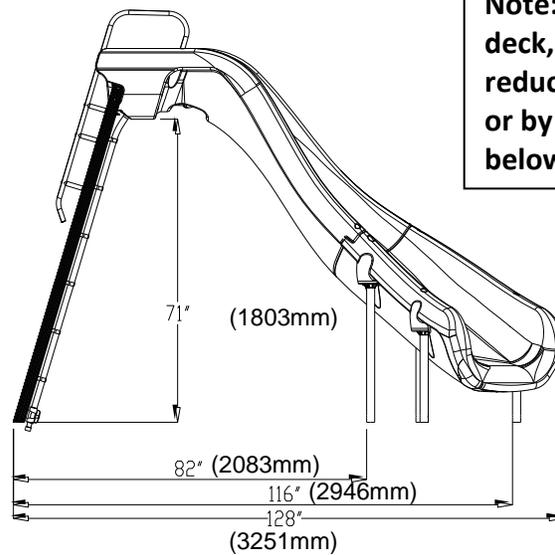

Figure 3
- a. Make sure that the slide entrance is level from side to side while maintaining a height of $77'' \pm 1/2''$ (1955.8 mm \pm 12.7 mm) from the deck level, and a ladder angle of 15 deg. (0.262 rad) with respect to the vertical. See Figure 3 for reference.
- 9) With the entrance way secured and the slide in relative final position. Level as close as possible the exit runway surface horizontally, from side to side, using a small level. The exit end height should be maintained at 7" (178 mm) between the bottom of the slide and the deck, see Figure 3.